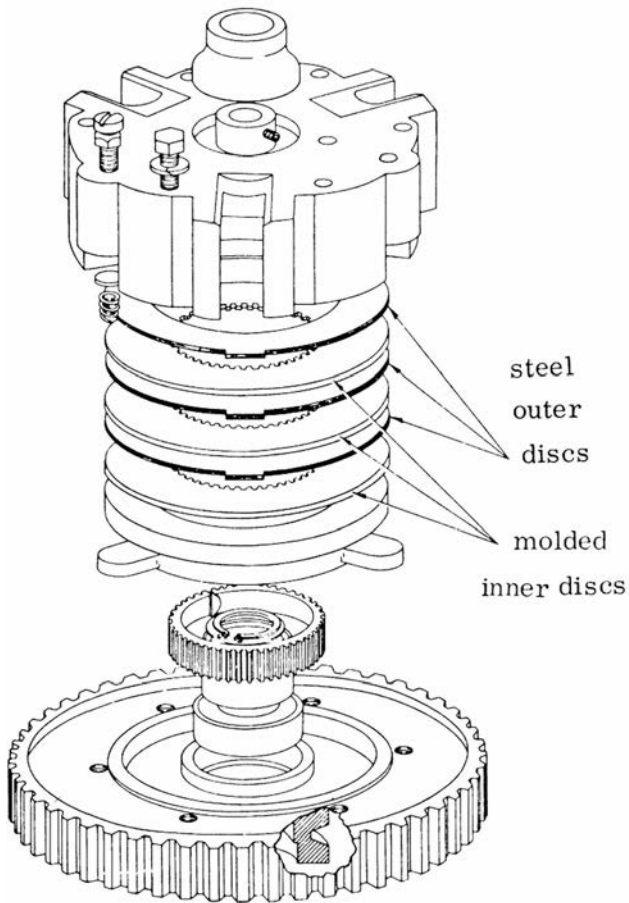

**Fig. 9-14**
(4) Install the steel outer disc and the molded inner disc as shown in Fig. 9-14 and Fig. 9-15.